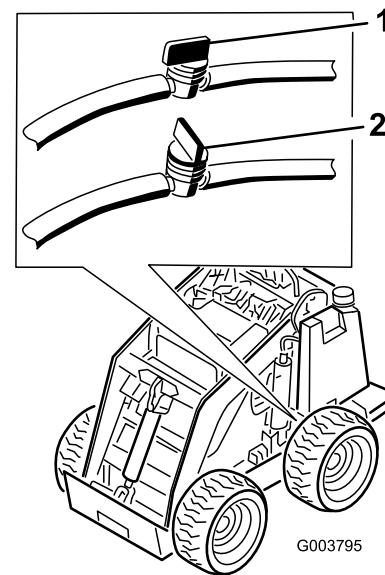

Figure 35
3. Shut off the fuel valve on the bottom of the fuel tank (Figure 35).
10. Open the fuel valve on the bottom of the fuel tank (Figure 35).
3. Shut off the fuel valve in the hose near the bottom of the fuel tank (Figure 35).
10. Open the fuel valve in the hose near the bottom of the fuel tank as illustrated in Figure 35.